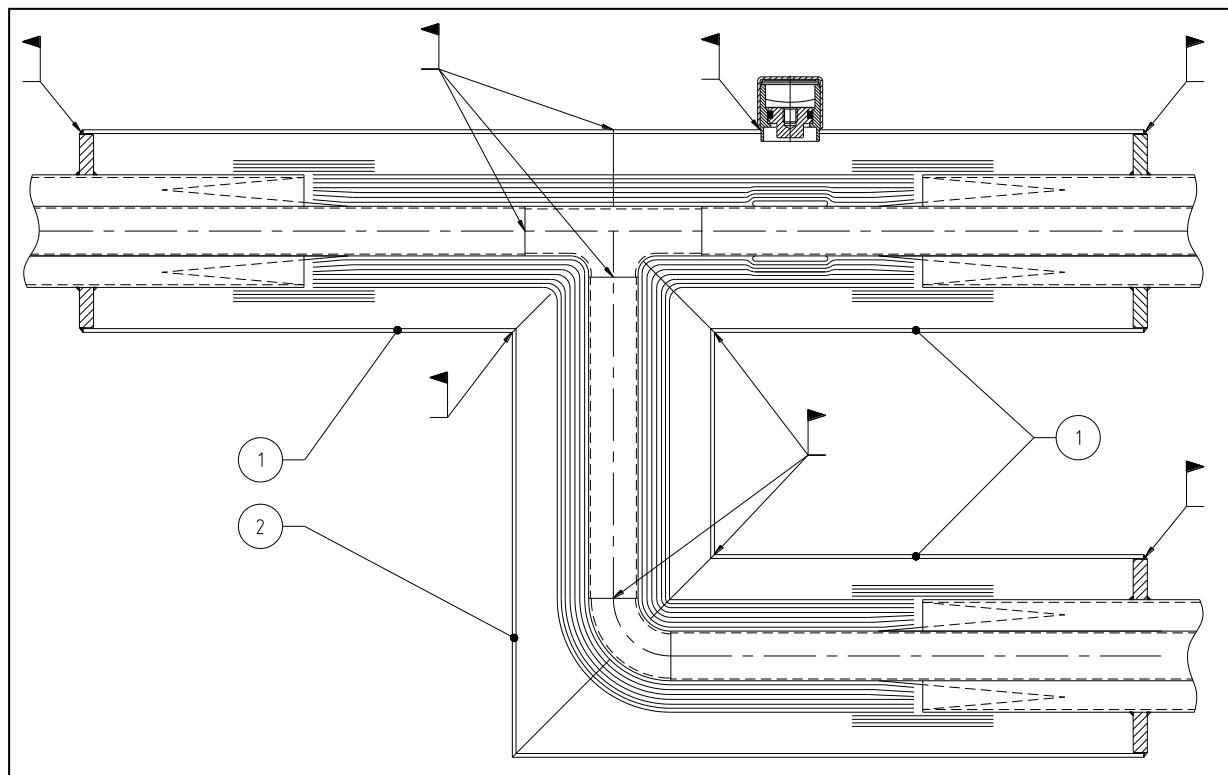

figure 6; **Welded T-coupling**
Position the three pipe section on the supports. Slide the three jackets (Fig.6, pos.1) around each section of the pipe and check the length of each part. Shorten the inner pipe and jacket if necessary and weld the inner pipe together.
The remaining vacuum jacket (Fig.6, Pos.2) is carried out as two half shells. These shells are mounted and welded when the vacuum jackets at the welding rings are welded according step 8 of the straight welded coupling